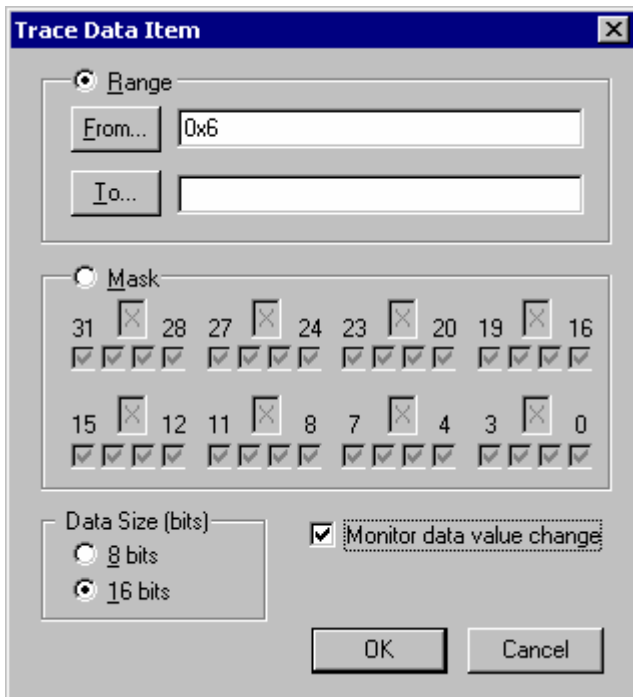

Figure 55. Event Q Data Item dialog
- Next, configure event Q. Address and Control Item are set in the same way like in the previous example. Don't forget to check 'Cover entire object range' in the 'Address Item' dialog. Enter 0x6 value, check 'Monitor data value change' option and select '16 bits' data size for the 'Data Item' (Figure 55).